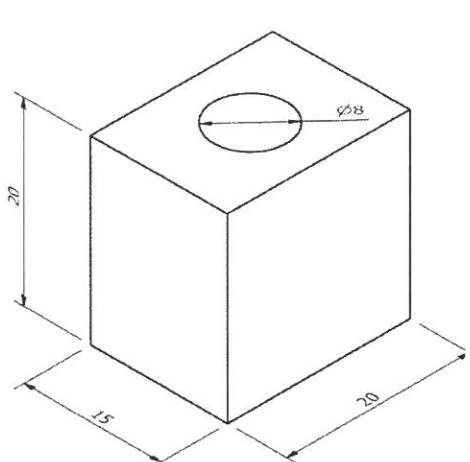

Figure 9a
- CLO1 Explain the instructions used in autocad software to construct **Figures 9a** and **9b** below. (All Units in mm)